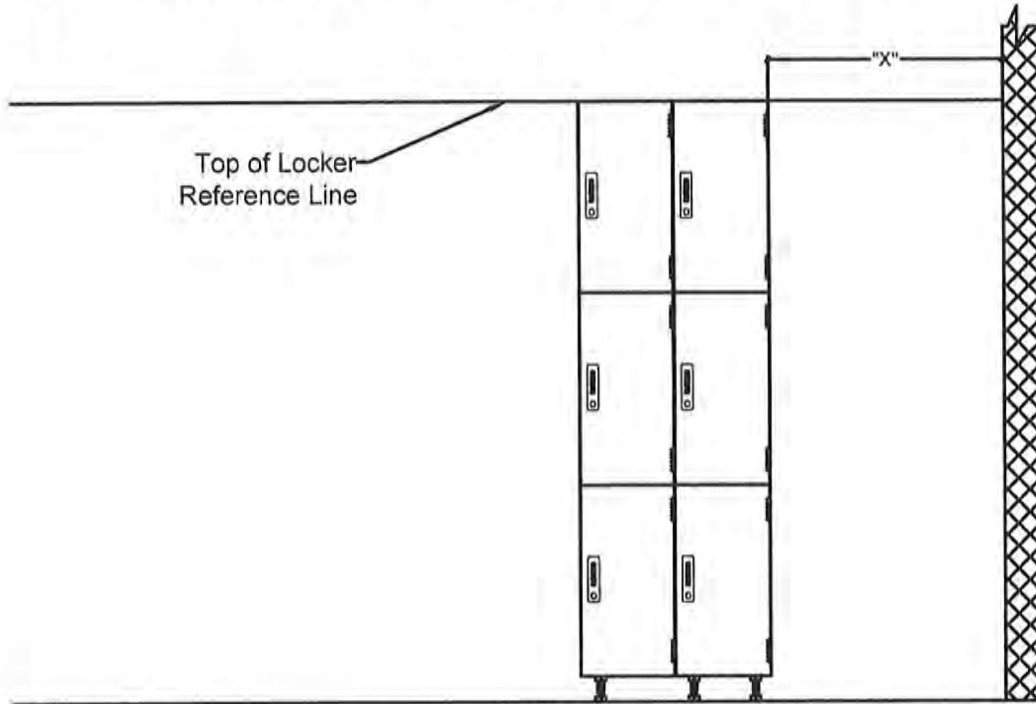

Figure 6.2 Locker Space Layout & Locker Top Reference Line
- 3.4 Using your laser level transfer this location on the walls where the lockers are to be installed, see Figure 6.2.
- 6.4 Space these lockers from the corner according to the dimension given in the top layout, see Figure 6.2.